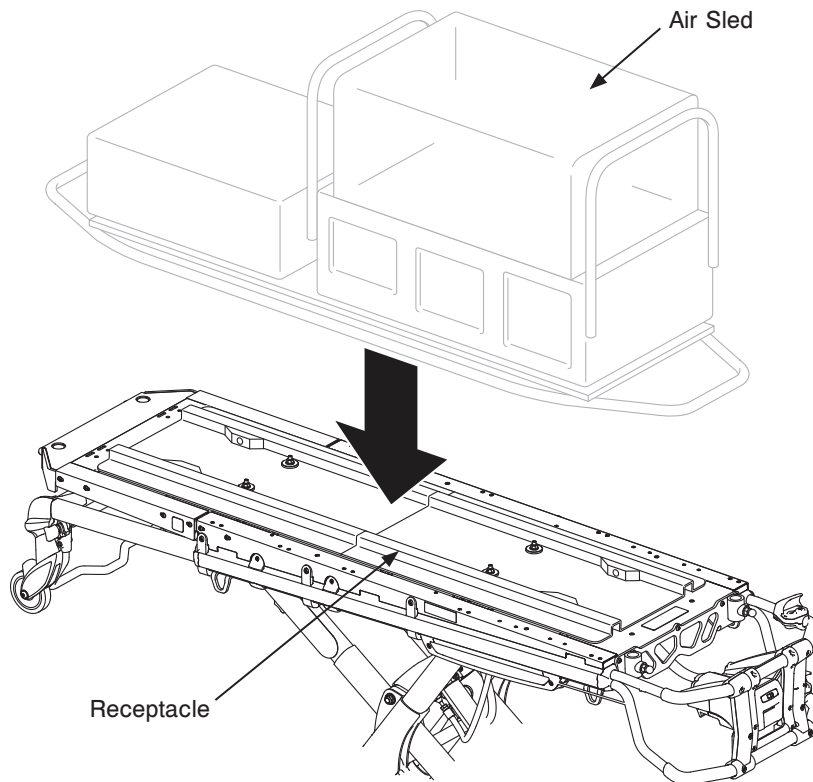

Figure 1
1. Bolt the receptacle to the litter frame using the supplied fasteners (Figure 1).
2. Insert the Air Sled into the receptacle using the latching system which is part of the Air Sled apparatus (Figure 1).